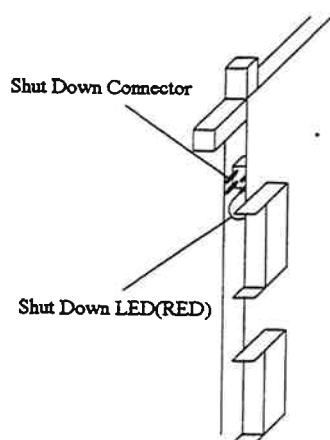

Fig. 3.7.5.2.2-1 Shut Down LED
- a. Confirm that the Shut Down LED lights.(Fig. 3.7.5.2.2-1) If the LED does not light, see Connection of Shut Down Jumper(INST03-2600).